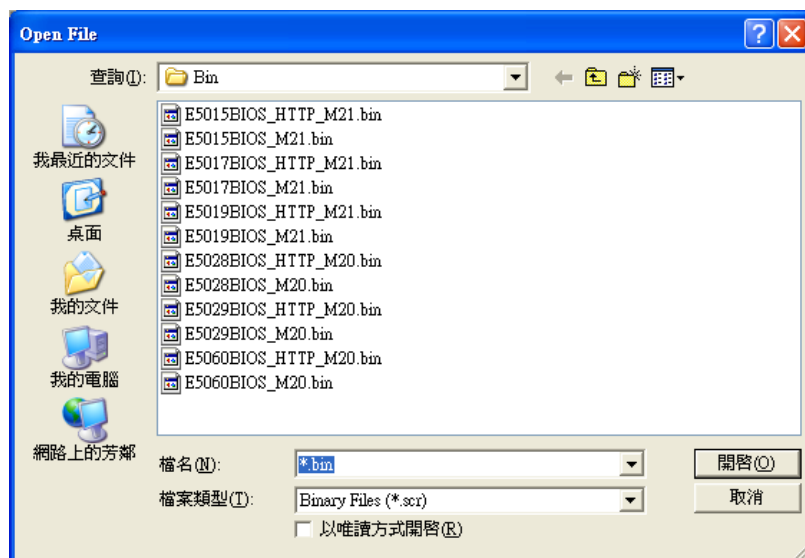

Figure -6
- Select the firmware file your are going to update (see Figure -6)